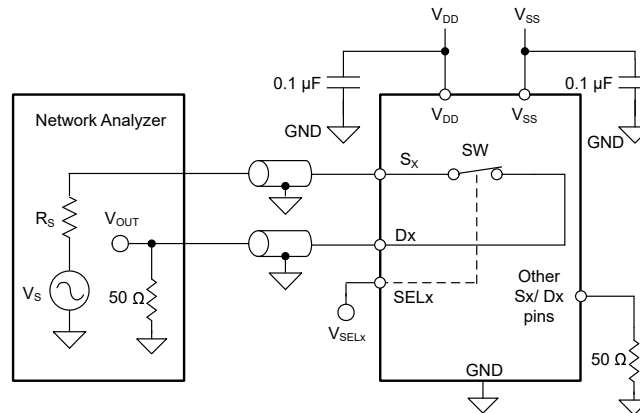

図 8-8. Bandwidth Measurement Setup
Bandwidth (BW) is defined as the range of frequencies that are attenuated by < 3 dB when the input is applied to the source pin (S_x) of an on-channel, and the output is measured at the drain pin (D_x). 図 8-8 and 式 3 shows the setup used to measure bandwidth of the switch.